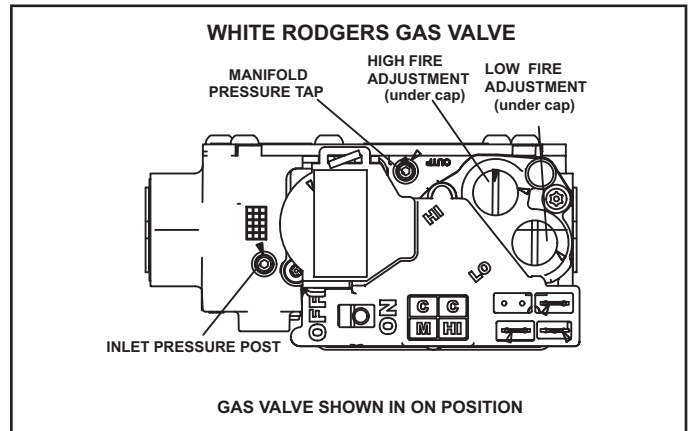

FIGURE 51
Gas Valve Operation (FIGURE 51)
- 6 - Move gas valve switch to **OFF**. See FIGURE 51.
- 8 - Move gas valve switch to ON. See FIGURE 51.
An inlet post located on the gas valve provides access to the supply pressure. See FIGURE 51. Back out the 3/32 hex screw one turn, connect a piece of 5/16 tubing and connect to a manometer to measure supply pressure. See TABLE 32 for supply line pressure.
A manifold pressure post located on the gas valve provides access to the manifold pressure. See FIGURE 51. Back out the 3/32 hex screw one turn, connect a piece of 5/16 tubing and connect to a manometer to measure manifold pressure.
- 5 - If necessary, make adjustments. FIGURE 51 shows location of high fire and low fire adjustment screws.